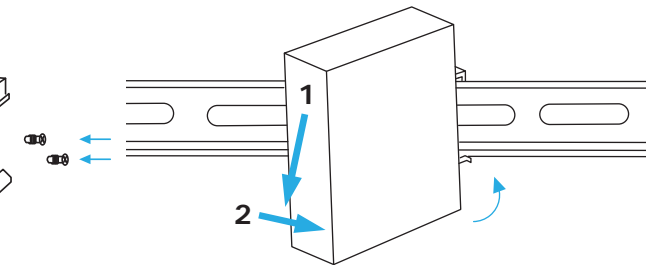

Figure 2
4. Mount the **PoE Injector** by inserting the **Mounting Plate** at an angle starting from the **Top** then **Push** against the **DIN Rail**. (Figure 2)